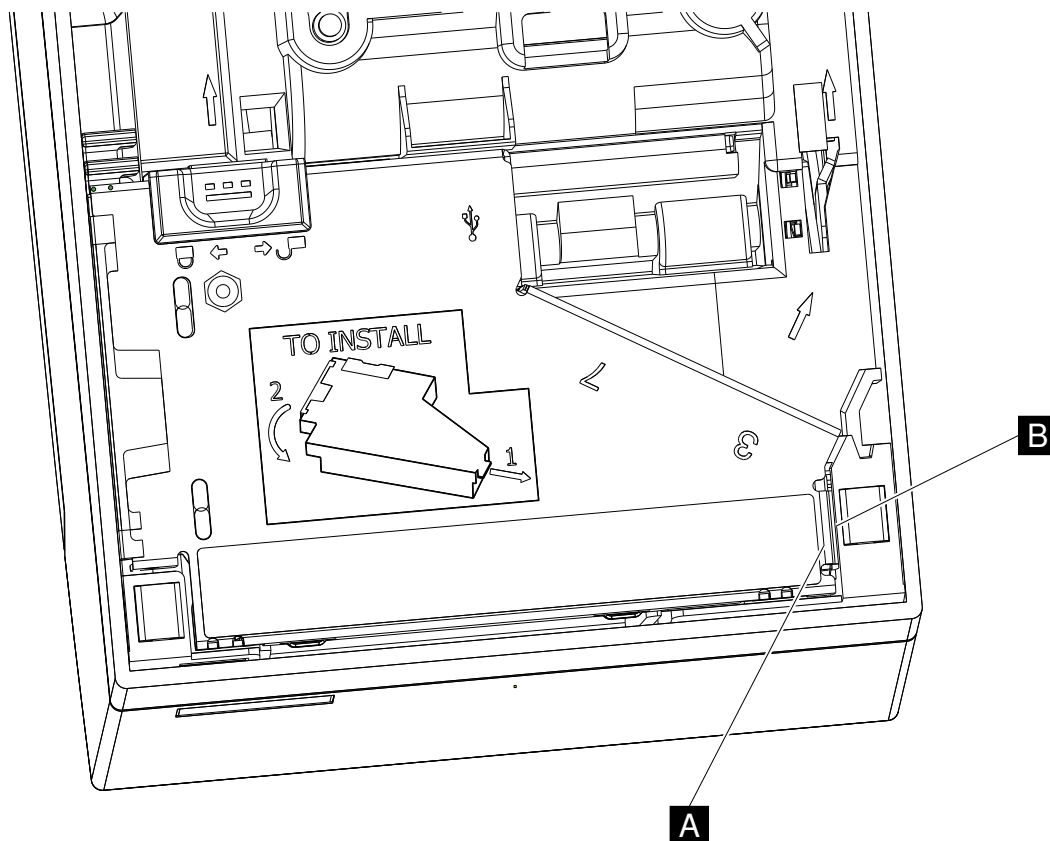

Figure 11. Installing the interface card
1. As shown in Figure 11, place the printer unit upside down.